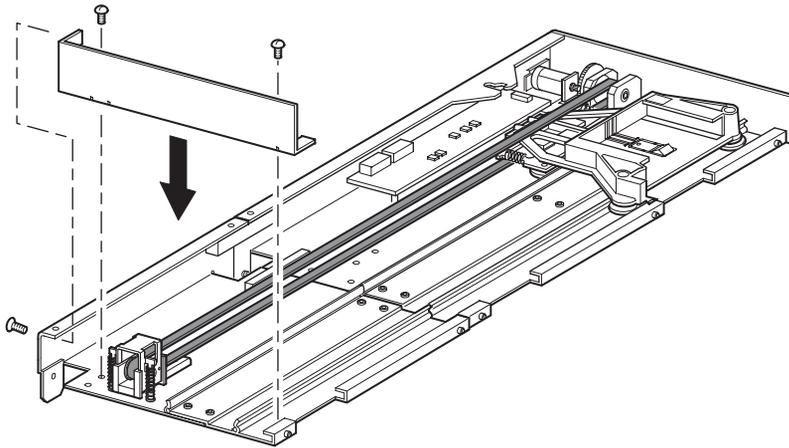

Figure 2–23: Installing the bottom plate
1. Use the handle while supporting the PTM base unit from the bottom (see Figure 2–9).